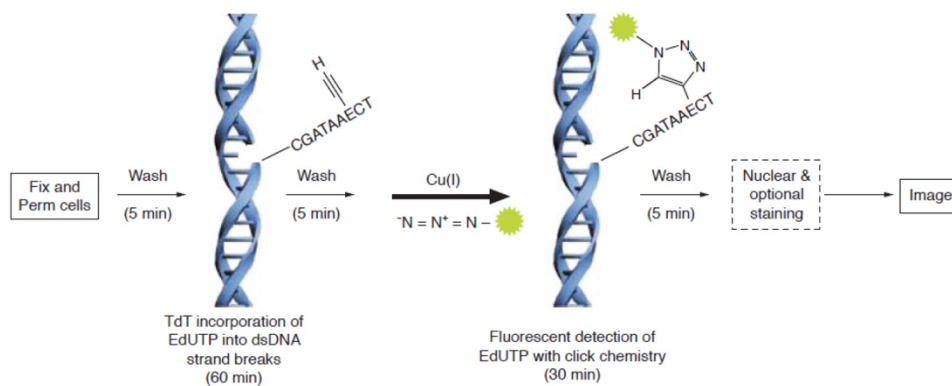

Figure 1. Detection of apoptosis with the iClick™ TUNEL Imaging Assay.
The new iClick™ TUNEL Andy Fluor™ 647 Imaging Assay utilize a dUTP modified with an alkyne, a small, bio-orthogonal functional group that enables the nucleotide to be more readily incorporated by TdT than other modified nucleotides such as biotin-dUTP and fluorescein-dUTP. Detection is based on a click reaction, a copper (I) catalyzed reaction between an azide and alkyne (Figure 1). The small size of the Andy Fluor™ azide (MW ~1,000) compared to that of an antibody (MW ~150,000) enables effortless penetration of complex samples with only mild fixation and permeabilization required. As a result, when compared to assays using other modified nucleotides, the iClick™ TUNEL Imaging Assay is fast (complete within 2 hours) and is able to detect a higher percentage of apoptotic cells under identical conditions.